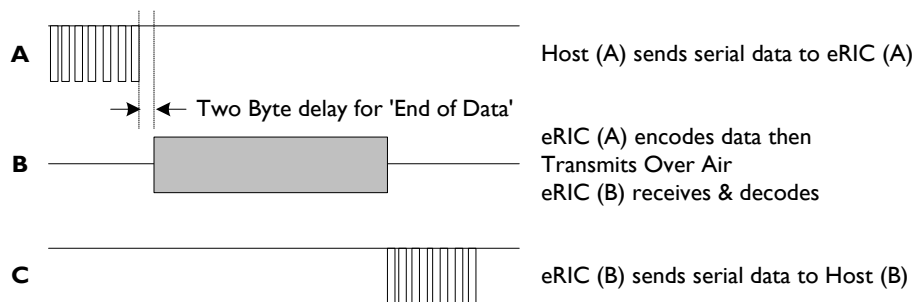

Figure 5 Timing Diagram
- Host (A) sends serial data to eRIC (A). The data must be continuously streamed (no breaks) at the selected host baud rate and is loaded into an internal transmit buffer.
- Data within the receive buffer of eRIC (B) will be sent to Host (B) at the selected baud rate.
Host (A) must allow time for the complete 'Over Air' transmission and for the receiving Host (B) to unload (and process) the data before sending new data. (See Figure 5). There is no automatic 'RF handshaking' provided by the eRIC transceivers. Radio transmission and reception is bi-directional (half duplex) i.e. transmit OR receive (but not simultaneously) and there is no automatic confirmation of the satisfactory reception of the data.